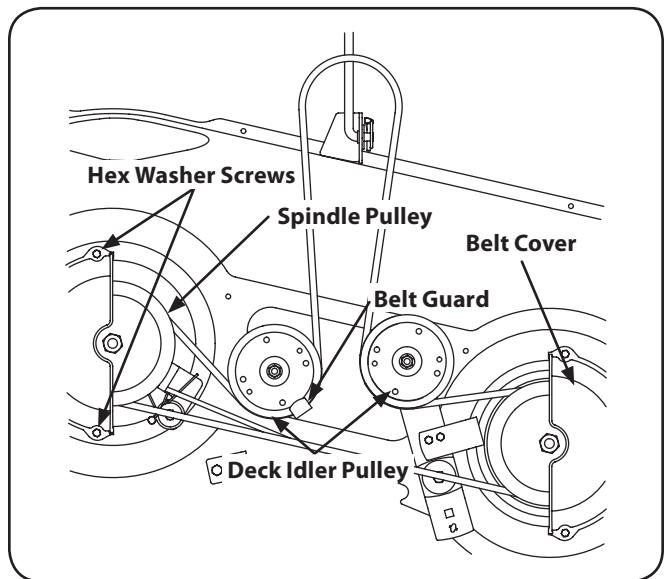

Figure 7-7
2. Remove the belt covers by removing the hex washers screws that fasten them to the deck. See Fig. 7-7.
4. Carefully remove the deck belt from around the two spindle pulleys and the two deck idler pulleys. See Fig. 7-7.
5. To place the new belt, begin by routing the belt around the two outer spindle pulleys as shown in Fig. 7-7.
6. Then route the belt around the two deck idler pulleys as shown in Fig. 7-7.